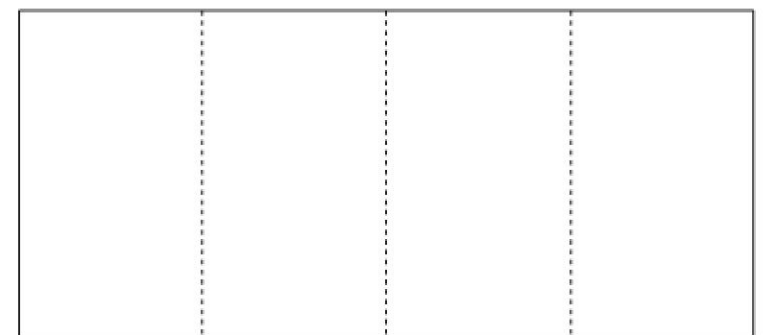

Figure 6
- 2** Use the tape measure and chalk to divide the plywood seat into four equal sections, as shown in figure 6.